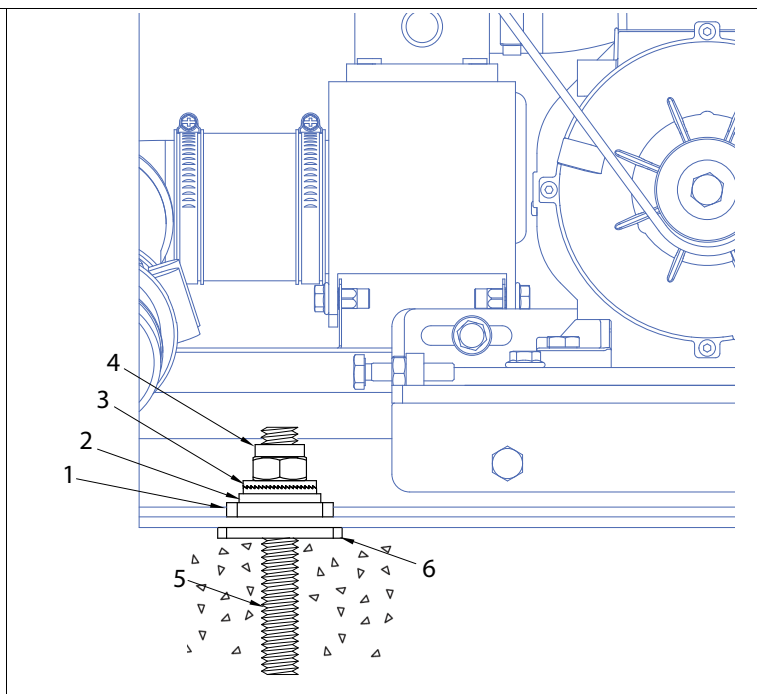

Fig. 5.11 Securing the Machine to Concrete MWR85 Model (Middle Anchor)
2. The bolt hole applies exclusively to the MWR85 model; Refer to Fig. 5.11 "Securing the Machine to Concrete MWR85 Model \(Middle Anchor\)" chapter on page 15 for bolt securing details.